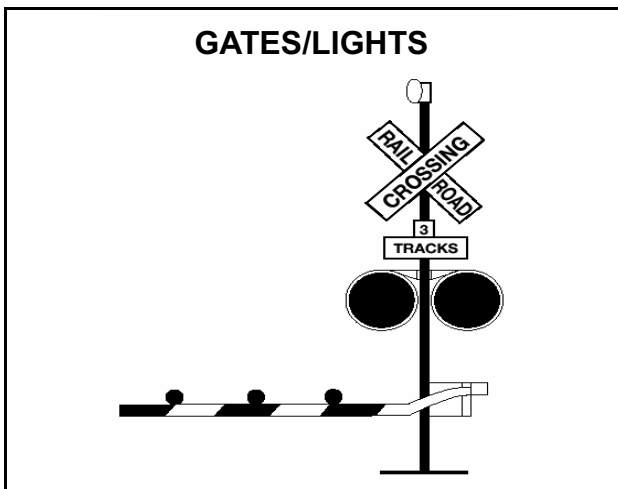

Figure 2.18
**Flashing Red Light Signals.** At many highway-rail grade crossings, the crossbuck sign has flashing red lights and bells. When the lights begin to flash, stop; a train is approaching. You are required to yield the right-of-way to the train. If there is more than one track, make sure all tracks are clear before crossing. See Figure 2.18.
**Gates.** Many railroad-highway crossings have gates with flashing red lights and bells. Stop when the lights begin to flash and before the gate lowers across the road lane. Remain stopped until the gates go up and the lights have stopped flashing. Proceed when it is safe. See Figure 2.18.